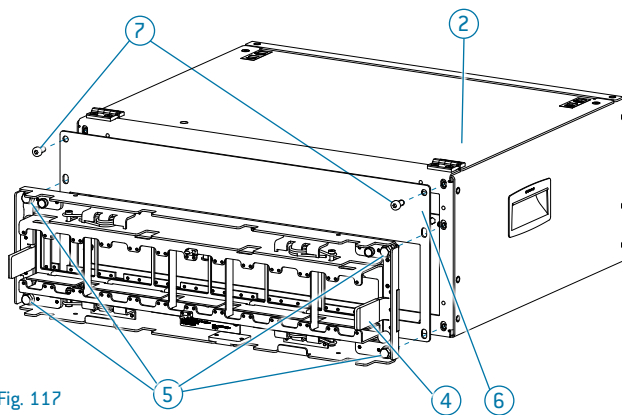

Fig. 117
- ▶ Attach the TWO M adapter (4) to the matching enclosure (2).
- ▶ Use the fastening screws (5) to mount the TWO M adapter (4) to the enclosure (2).
- ▶ See Fig 117